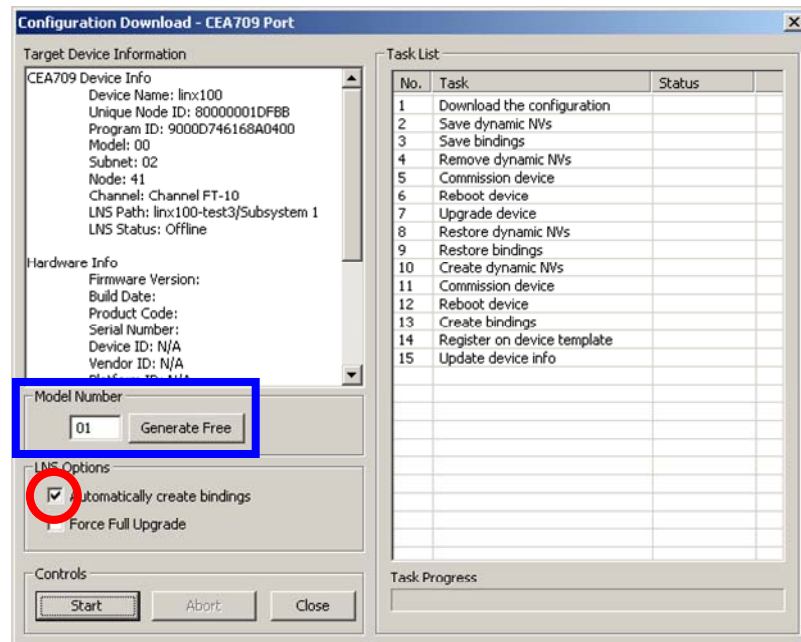

Figure 89: Configuration Download Dialog
in the tool bar of the main connections window. This will open the configuration download dialog as shown in Figure 89.
2. If no bindings shall be generated, deselect the **Automatically create bindings** checkbox indicated by the red circle in Figure 89.
3. If the static NV interface has been changed, a new model number for the LINX-10X needs to be selected. This is necessary, as the static network interface of the LINX-10X changes on the CEA-709 network. The LINX-10X Configurator automatically selects a usable value, which can be overridden in the field **Model Number** marked by the blue rectangle in Figure 89.